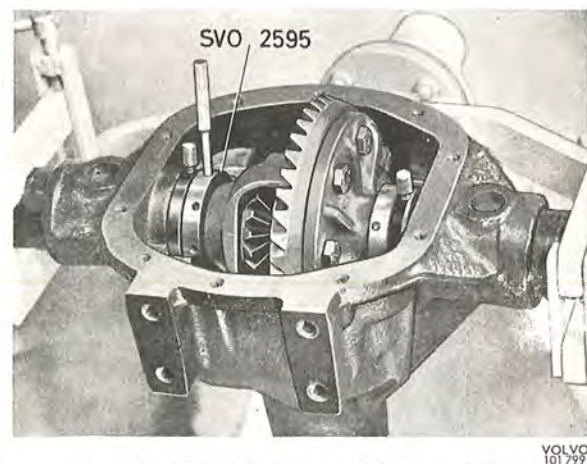

Fig. 4-94. Adjusting rings for differential
1. Lubricate the inside of the adjusting rings SVO 2595 and put them on the differential carrier. The ring with the black-oxidized adjusting ring should be placed on the crown wheel side. Also lubricate the bearing location in the carrier. Place the differential carrier and the adjusting rings in the final drive housing, see Fig. 4-94. Use the dial indicator and adjust in the rings so that the correct tooth flank clearance .13—.20 mm (.005—